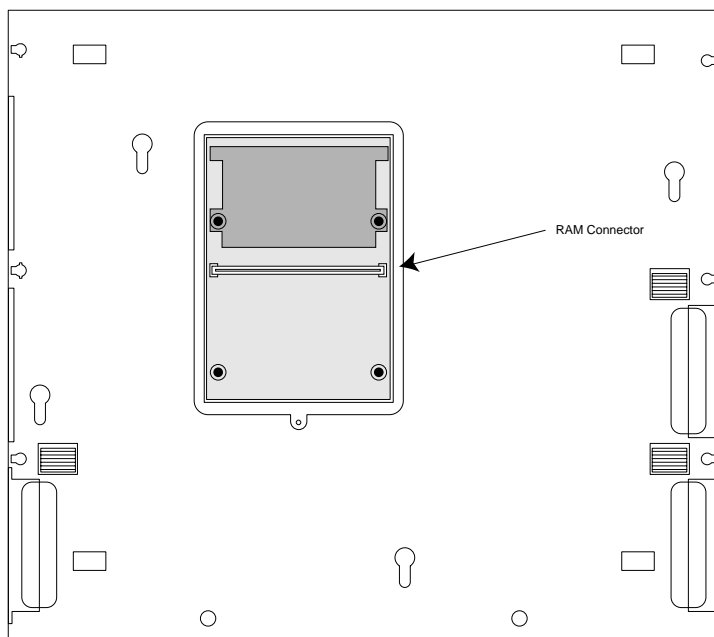

Figure 3-12 Installing the Memory Module
4. *If you are adding a new memory module*, insert it in the available slot (see Figure 3-12), pressing gently but firmly until it is fully seated.